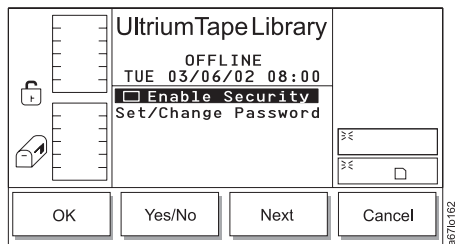

Figure 14-55. Secure Dialog
Note: If security is enabled, you must enter the existing or default password (**0000**) to display the Secure Dialog (see Figure 14-55 on page 14-51).
- Press the button below the **OK** softkey. The Secure Dialog screen displays (see Figure 14-55 on page 14-51).
Note: In Figure 14-55 on page 14-51, the absence of a checkmark in the checkbox beside the Enable Security field indicates that security has not been enabled.